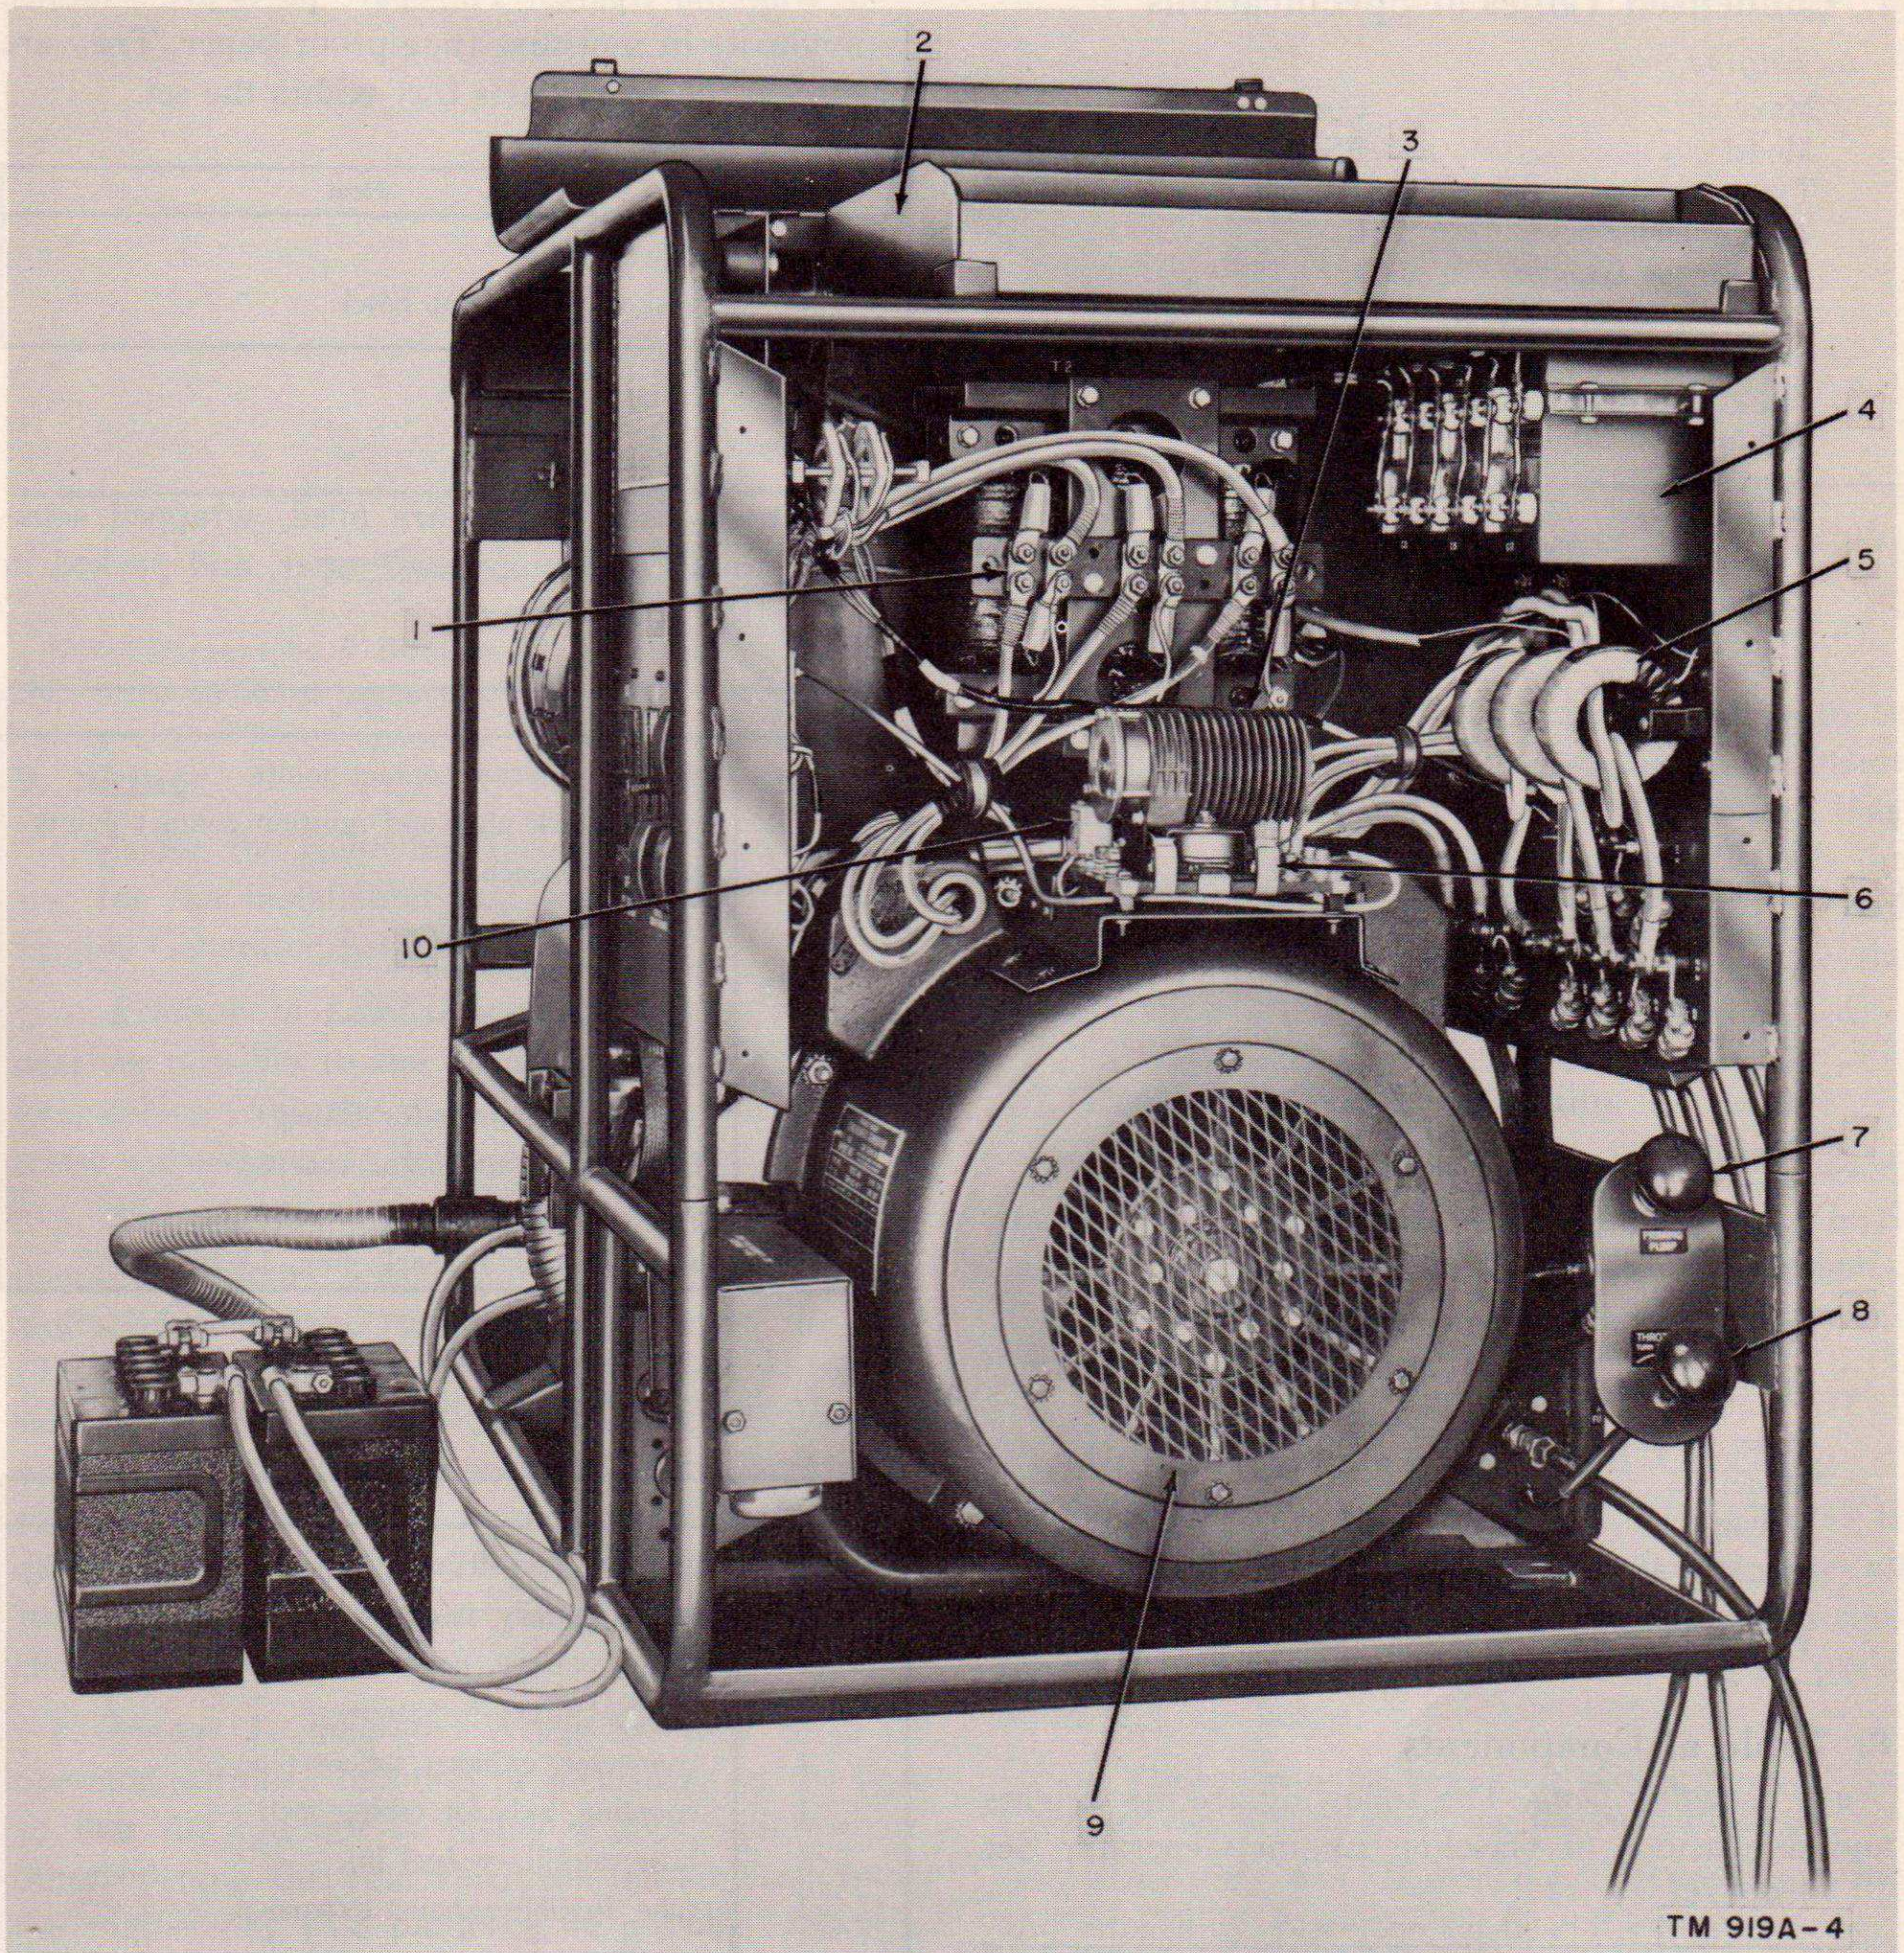

Figure 4. Gasoline Engine Generator Set PU-107A/U, rear view.
*c. Alternator.* (9, fig. 4). The alternator is of the permanent magnet-type with 28 poles. It is directly coupled to the engine and, when operated at 1,714
revolutions per minute (rpm), develops 12.5 kilowatts (kw), 120 or 208 volt, three-phase, four-wire output at .8 power factor. A compensator assembly, consisting of a transformer (1, fig. 4) and a capacitor assembly (4, fig. 4), is provided to maintain voltage stability.